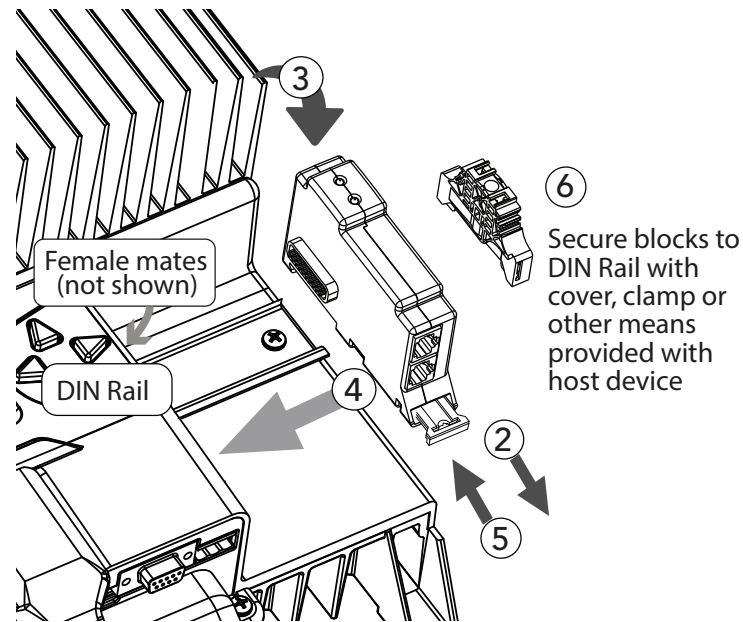

Figure 3-1. Mounting BMS Block on the Host Device
Morningstar Ready Blocks (ReadyShunt, ReadyRelay, ReadyBMS) are DIN rail-mounted, and have modular 20-pin connectors on each side of the Block. The left-side male connector mates with the host device's control board, while the right-side female connector is available to mate to another ReadyBlock (daisy-chain configuration - see Figure 3-1 below). Each ReadyBlock takes one of (3) positions on the GenStar DIN Rail - the left-most being Position 1.
To install a ReadyBMS (see Figure 3-1 below):